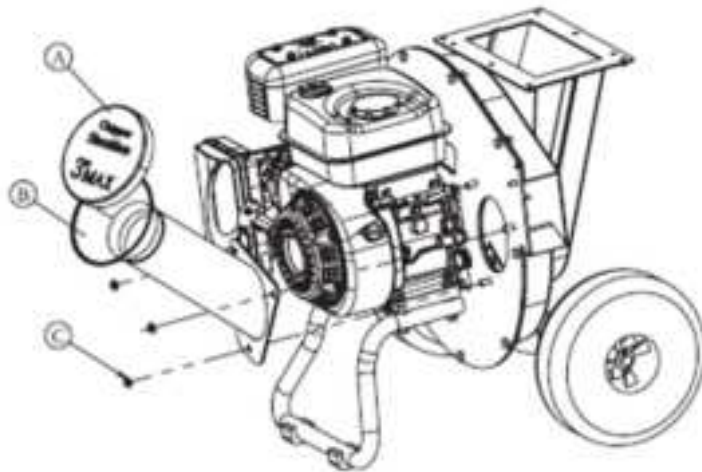

Figure 8
Inspect Chipping Knives (See Figure 8)
2. Remove the nuts securing the chipper cone to the front of the chipper. Remove the chipper cone to access the knives. See figure 8.